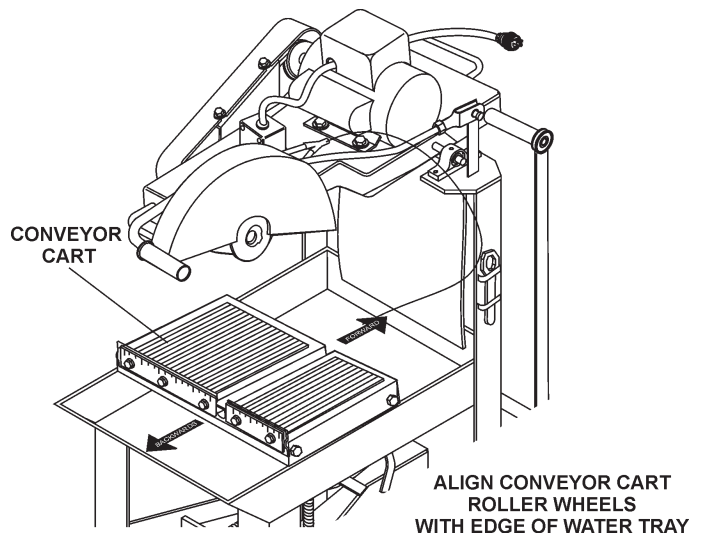

Figure 8. Conveyor Cart Placement
1. Place the conveyor cart across the water tray as shown in Figure 8. Align the wheels of the cart with the outer edge of the water tray. Push the cart back and forth, it should move freely in both directions.